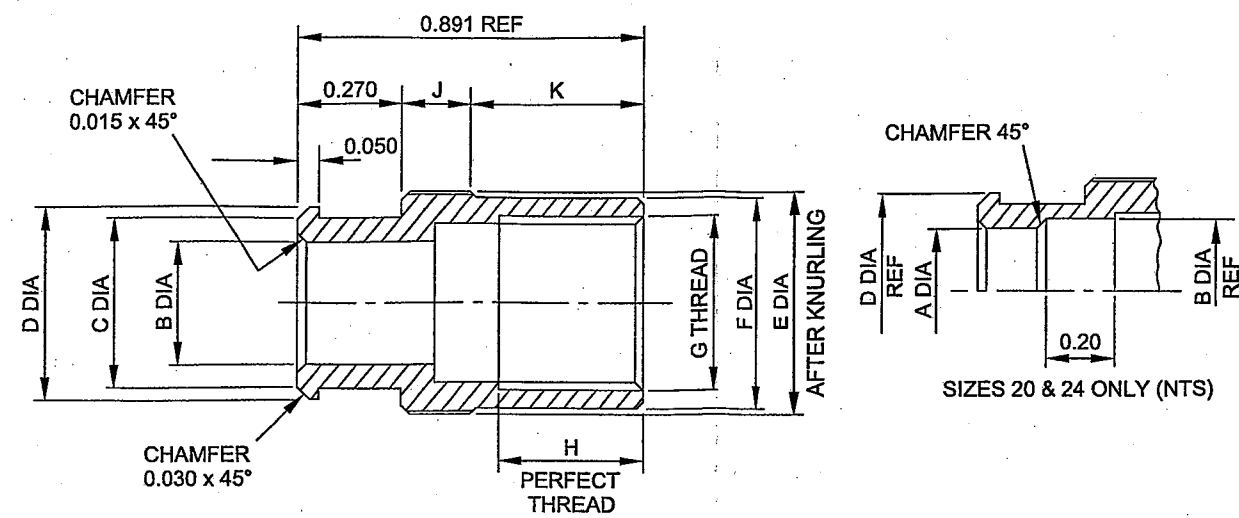

Fig 40 Sleeving adapter, 460/466, dimensions
29.2 Details of the 460/466 style are given in Fig 40 and Table 30.